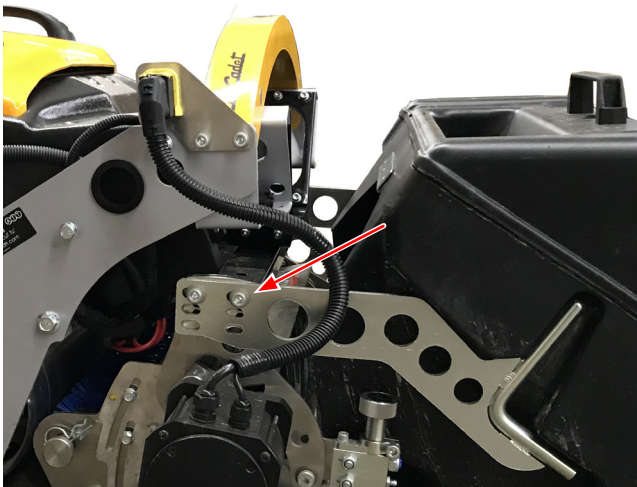

Figure 12
2. Locate the two attaching points at front of mower. Opposite side not shown. See Figure 12.
- Adjust grass box position to achieve a good fit with grass box clear of ground. See Figure 12.